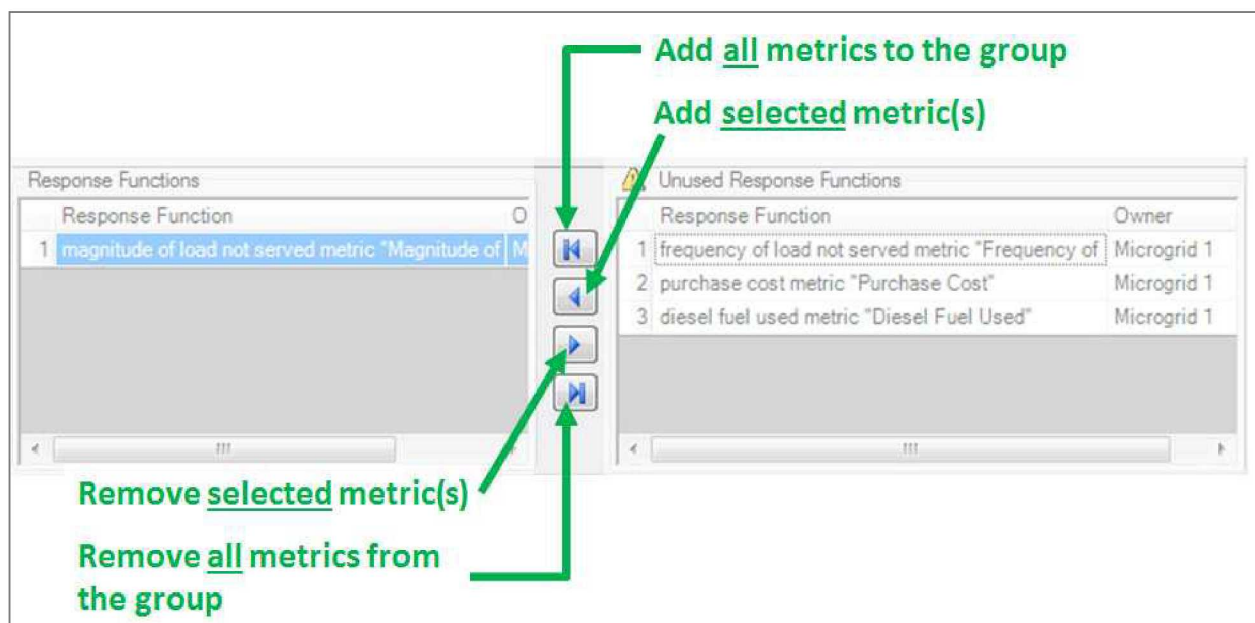

Figure 37. Adding and removing metrics from Response Function Groups.
- d. Click the left arrow button to add the metric to the group (Figure 37).
4. Click the right arrow button to remove the metric from the group (Figure 37).